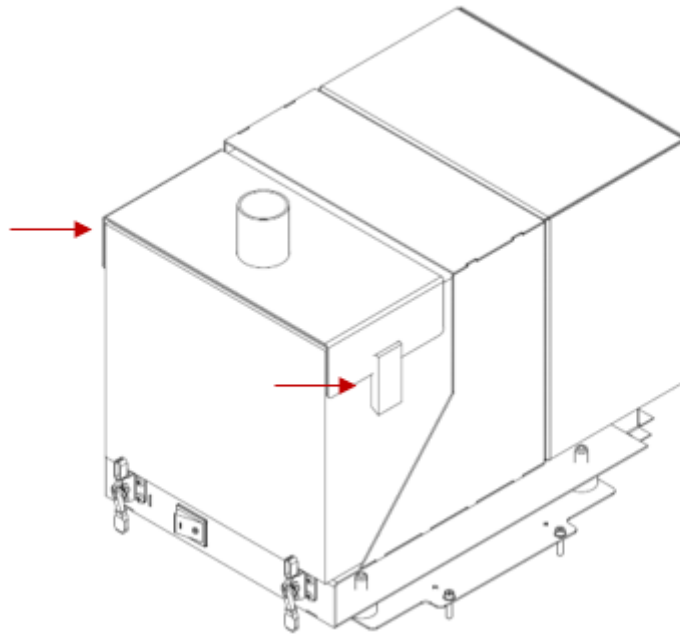

Fig. 133 Clasps securing the filter cover
4. Open the two clasps securing the top filter cover (Fig. 133).